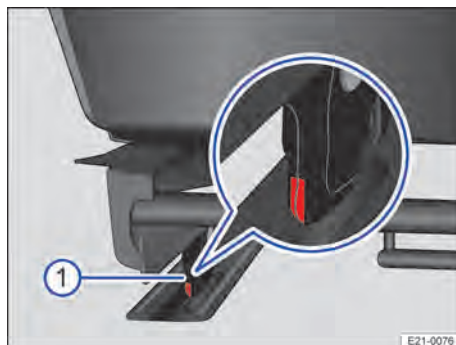

Fig. 78 Third row of seats: Floor locking mechanism indicator.
The seat is engaged securely if the red mark on the floor locking mechanism → Fig. 78 ① is **not** visible → ⚠.